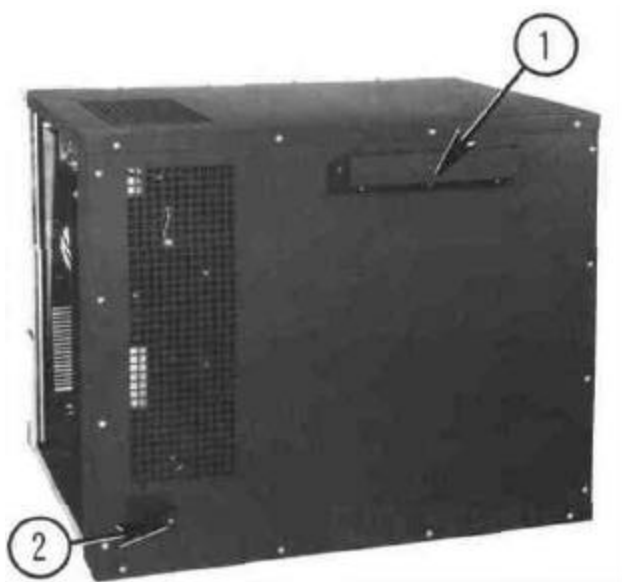

Figure 2-1
1. Remove steam vent box and packet of screws from inside oven and attach vent box to back of oven over vent opening using five #8 sheet metal screws. (Fig. 2-1 No. 1)
3. Feed supply through opening in rear of oven (Fig. 2-1 No. 2) and connect supply wires to terminal block behind control panel.